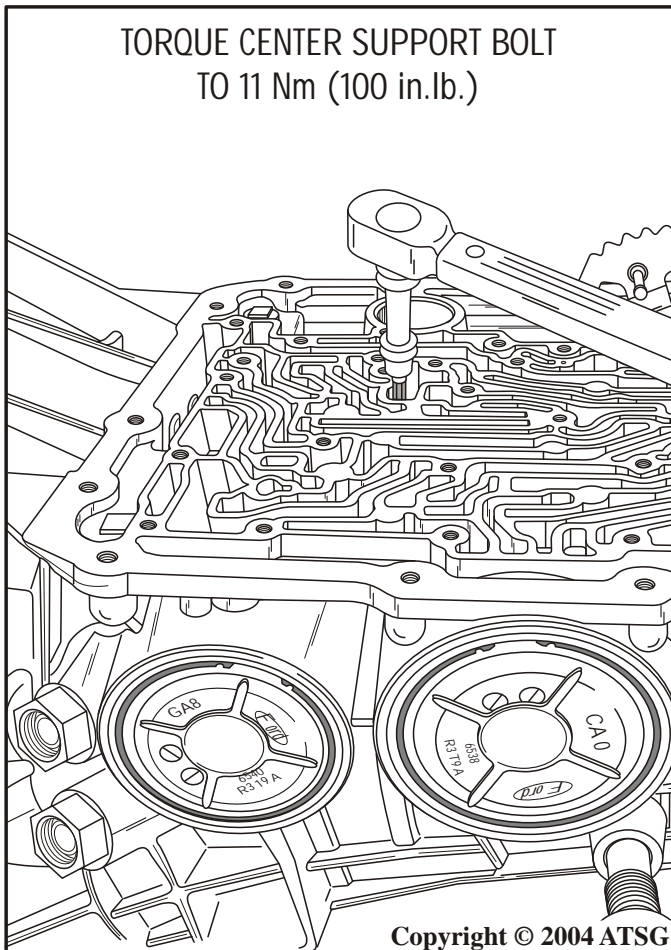

Figure 169
58. Rotate the transmission so that the valve body surface is facing up, as shown in Figure 169.
59. Torque the center support retaining bolt down to 11 Nm (100 in.lb.), (See Figure 169).